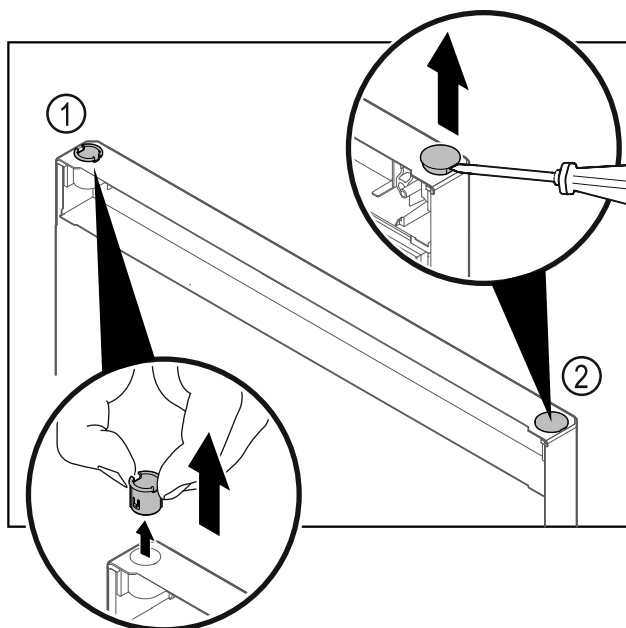

Fig. 18 Fridge compartment door
- Pull out the hinge bushing Fig. 18 (1) with your fingers.
- Carefully lift the cover plug Fig. 18 (2) with a slotted screwdriver and pull it out.